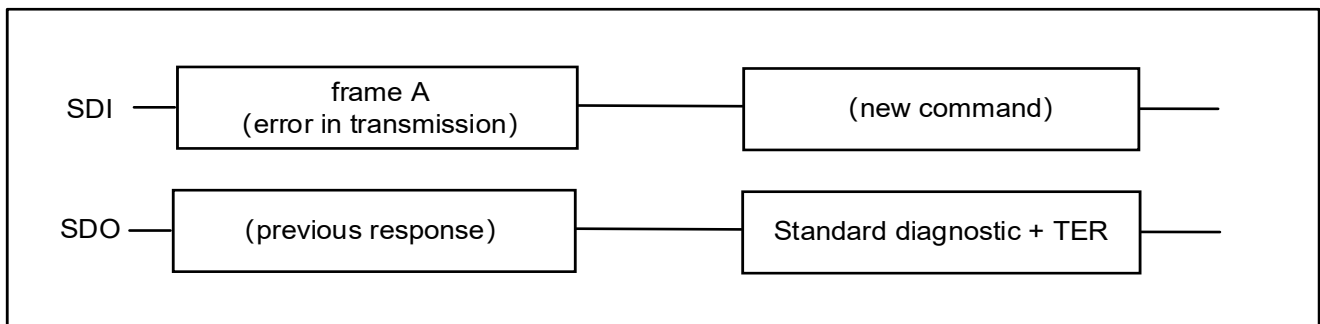

Figure 10.8 NSD56620 response after an error in transmission
- In case an error in transmission happened during the previous frame (for instance, the clock pulses were not multiple of 8 with a minimum of 16 bits), shown in **Figure 10.8**